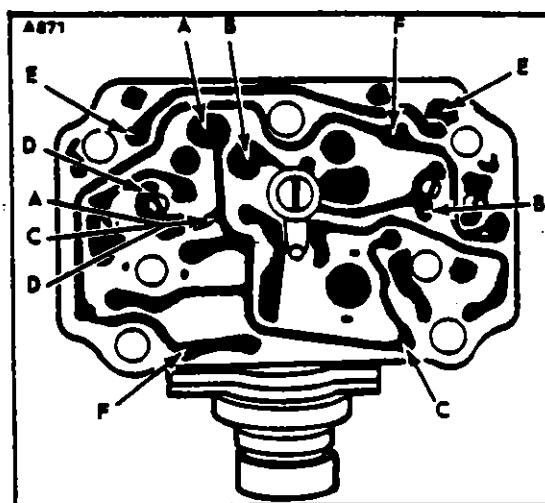

FIGURE 9-26. REGULATOR CHECKS
3. If reading is zero, check for a short between "NEG" and "FLD" leads, or for a grounded "FLD" lead. Circuit trace will be burned open between points A-A, B-B, or C-C, Figure 9-26.
4. If reading is low, alternator field winding is shorted. Circuit trace may be burned between points A-A, B-B, or C-C, Figure 9-26.
2. If voltage reading is zero, the "NEG" and "FLD" leads are reversed. Circuit trace will be burned open between points A-A, B-B, or C-C, Figure 9-26.
2. If meter now reads backwards, alternator field terminal is connected to regulator negative terminal, the positive line is connected to regulator field terminal, and regulator positive terminal is connected to negative side of circuit. Either the circuit trace will be burned between points C-C, D-D, or E-E, Figure 9-26; or the driver transistor will be open. In either case, the driver bias resistor will have been overheated.
1. If meter still reads backwards, the "POS" and "NEG" leads are reversed. The circuit trace may be burned between points C-C, D-D, E-E, or F-F, Figure 9-26. The transient suppression diode always will be open or shorted.
terminal is connected to the regulator "POS" terminal. The circuit trace will be burned open between points F-F. Figure 9-26